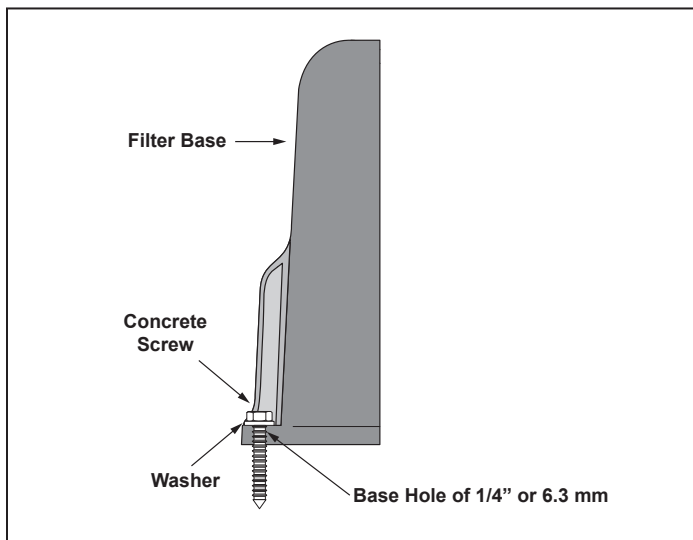

Figure 3. Install Concrete Screws
1. After placing the filter, drill a hole at each of the four (4) holes in the base of the filter. (The correct size concrete drill bit should be obtained when the concrete screws are purchased.) The concrete screws must meet any and all applicable building code requirements.
2. Install the screws and washers to secure the filter to the equipment pad. See Figure 3. Do not over torque the screws.